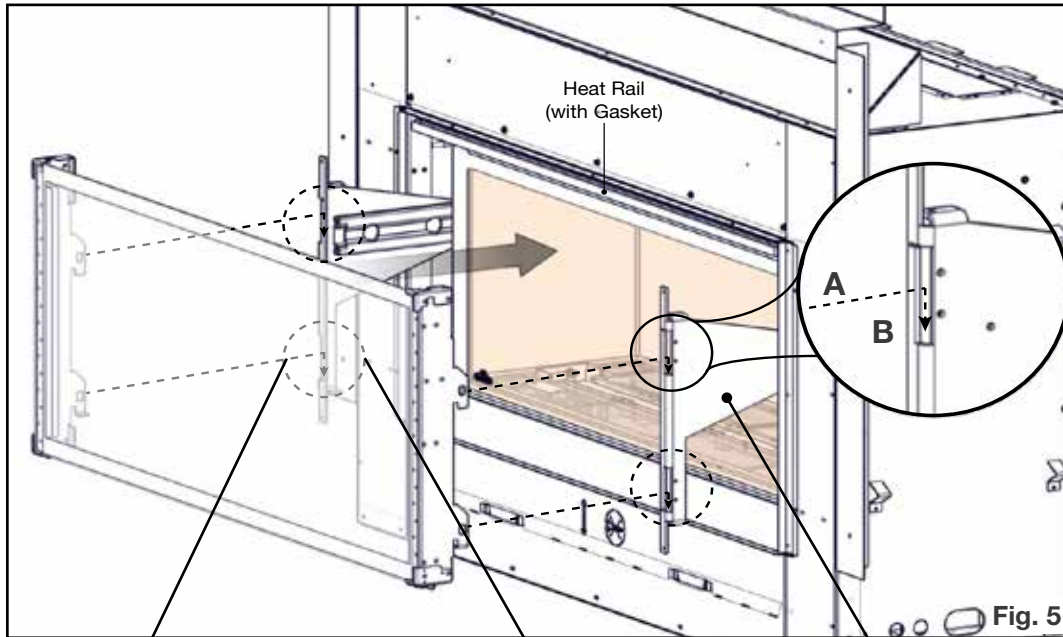

Fig. 5
5. Fully extend the two TGG slider brackets of the appliance outward (**Fig. 5**).
6. Carefully hook TGG onto TGG slider brackets by aligning the horizontal tabs on the TGG with the horizontal slots in the bottom of the TGG slider brackets and moving the TGG back into the TGG slider brackets (**A**). Ensure both top and bottom tabs of the TGG engage with hooks of the TGG slider brackets (**B**) (**Fig 5**).